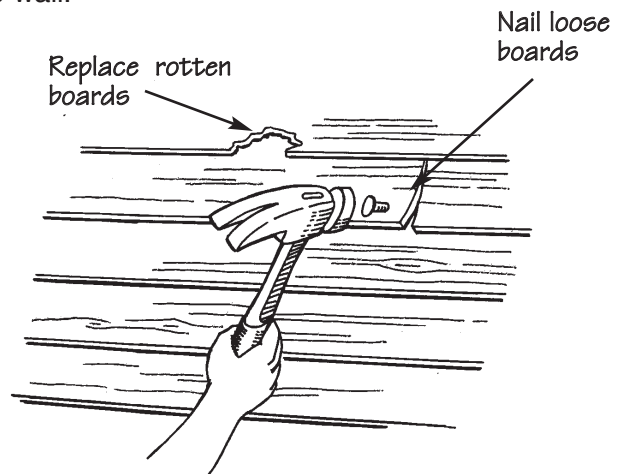

Figure 22.
- Nail down loose boards of existing siding, and replace any rotten ones (Fig. 22). **Do not install vinyl siding over rotting wood.**